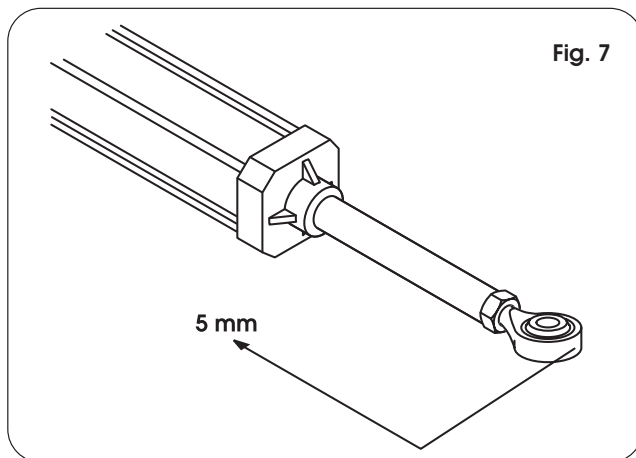

Fig. 7
- 5) Fully remove the rod to its stop point and make it recede by about 5 mm (Fig.7).